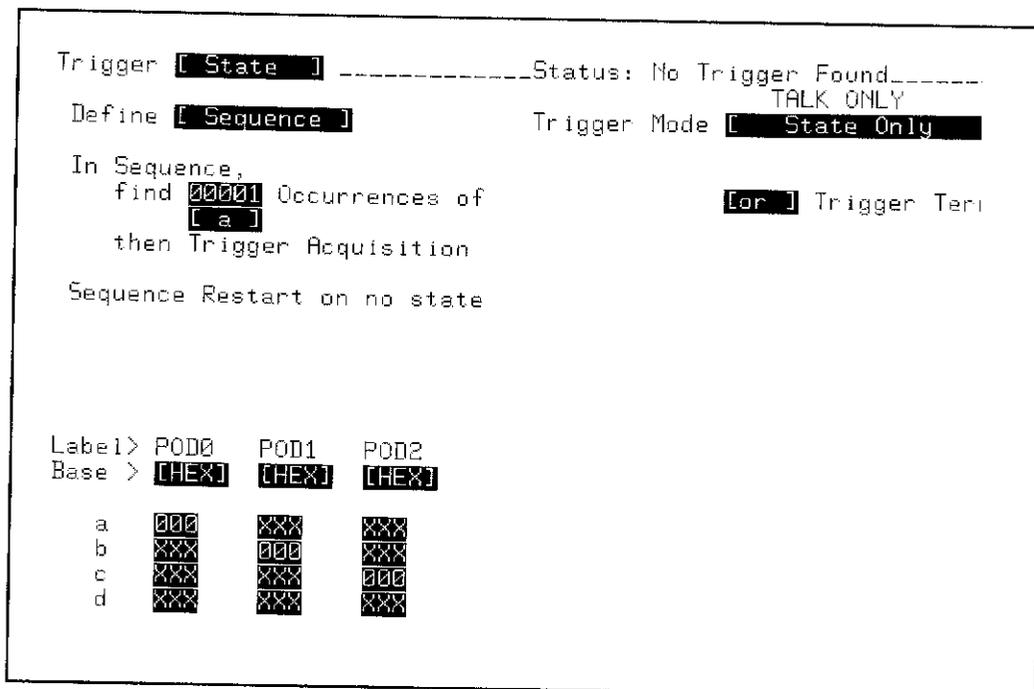

Figure 3-20. TRIGGER State / Define [Sequence] Menu
5. Configure the TRIGGER State / Define [Sequence] menu as shown in figure 3-20.
19. Reconfigure the TRIGGER State/Define [Sequence] menu in figure 3-20 with "Occurrences of [b]".
22. Reconfigure the TRIGGER State/Define [Sequence] menu in figure 3-20 with "Occurrences of [c]".